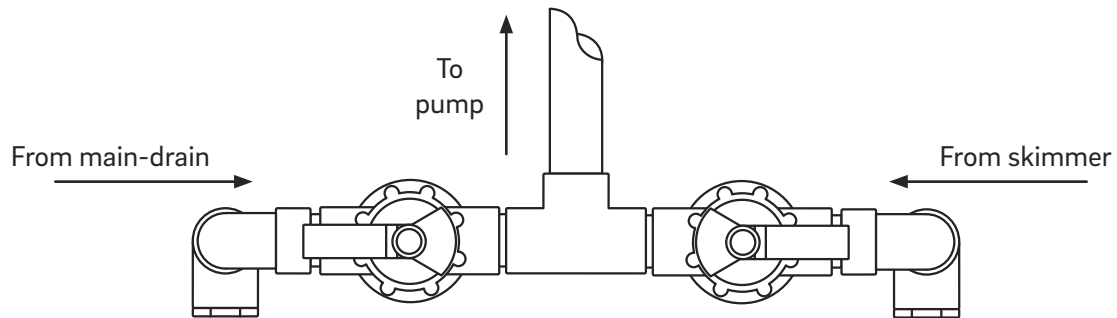

Figure 21
1. In order to evacuate the lines during the winterization process it is recommended that a 2-Way shut-off valve be installed on each suction branch-line preceding the main-line feeding the pump (Figure 21).